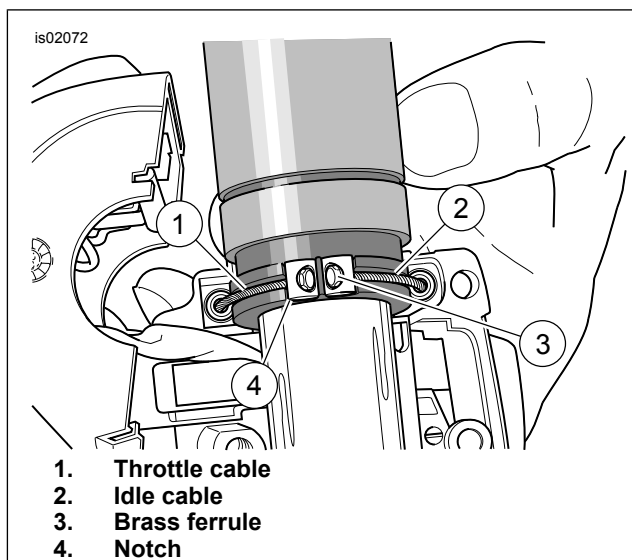
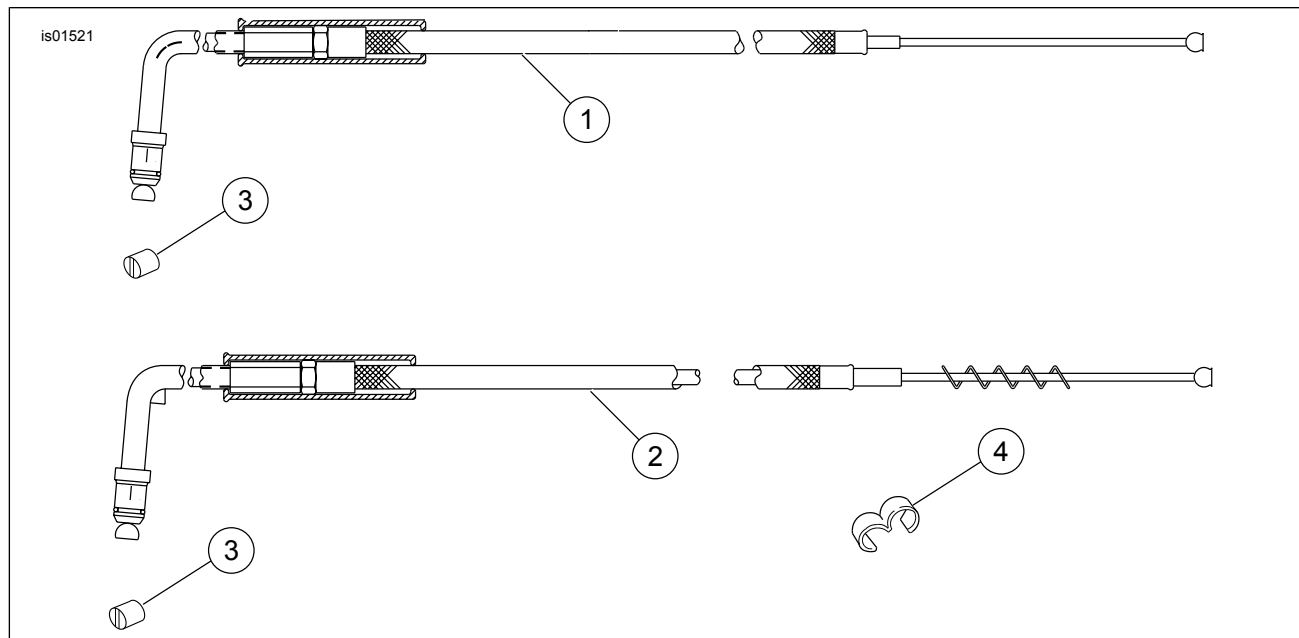

Figure 3. Throttle/Idle Control Cables
Figure 11. Service Parts: Multi-Fit Braided Throttle/Idle Cable Kits
6. See Figure 3. Remove the brass ferrules from the notches on the inboard side of the throttle control grip. Remove the ferrules from the cable end fittings.
1. See Figure 3. Apply graphite lightly to the throttle grip inside the switch housing and on the throttle end of the handlebar.
6. See Figure 3. Position the lower switch housing beneath the throttle control grip. Install two brass ferrules (Item 3, Figure 11) from this kit onto cables, seating the ferrules in their respective notches on the throttle control grip. The cables must be captured in the grooves molded into the grip.